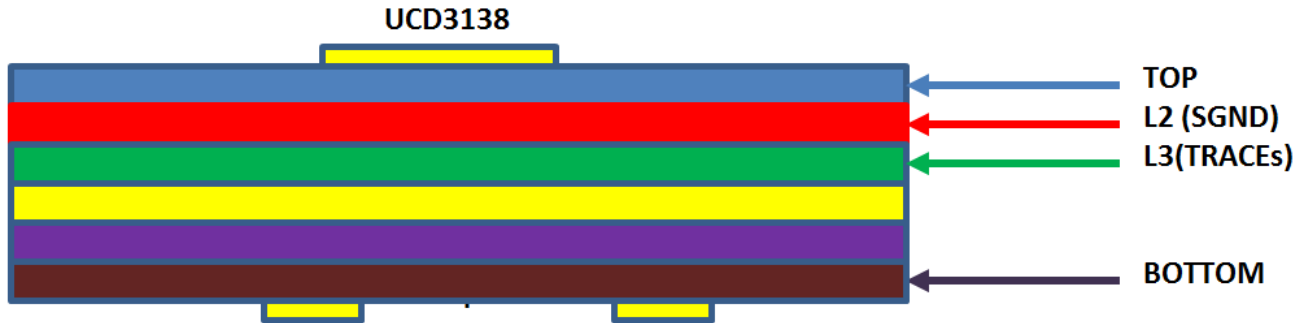

图 12-7. Single Ground Plane for a Power Module Design
- In a power module or a tiny PCB design, a single solid plane without the grounding separation is shown in Figure 12-7 and has a single point connection with power RTN or SGND near the connector. Ensure there is no current flow from power train into the signal ground plane.